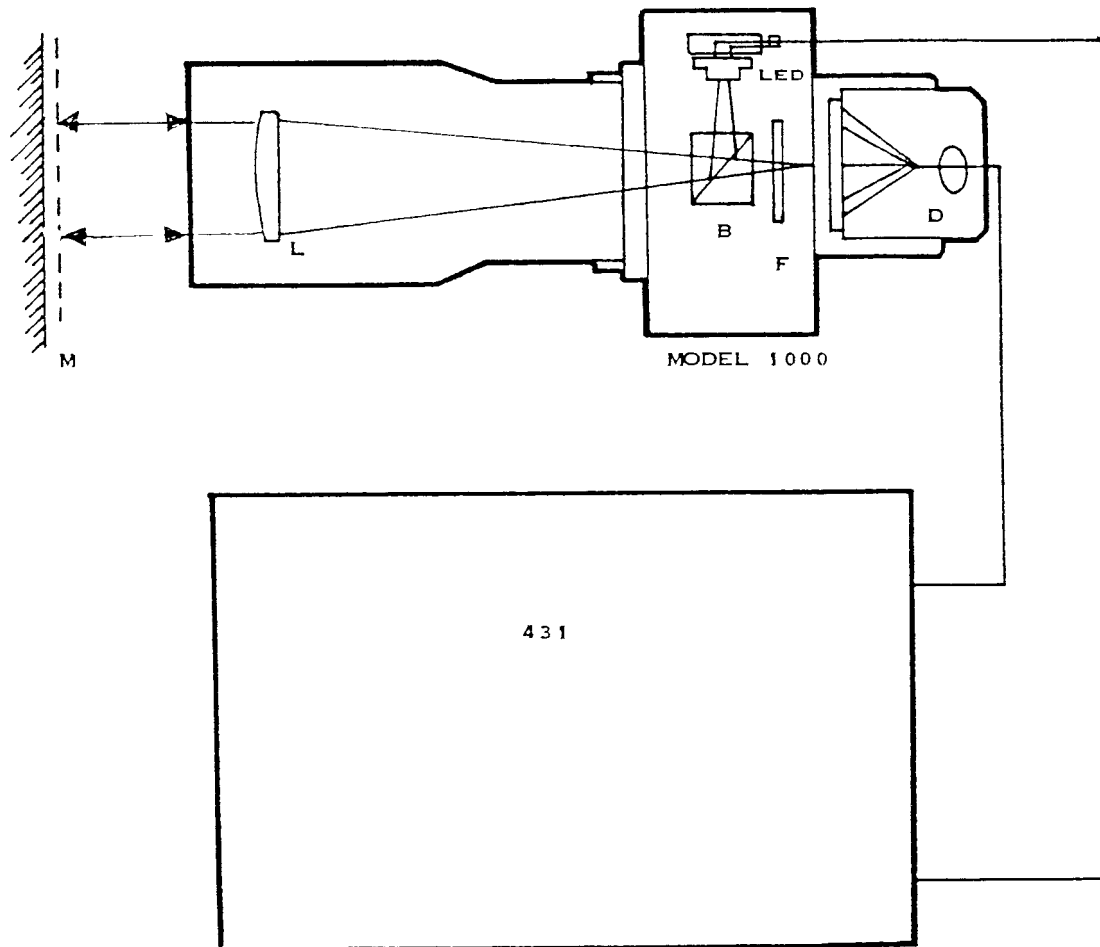

FIGURE 4.7B TYPICAL MODEL 1000 SYSTEM
The UDT Model 1000 is similar in concept to the classical autocollimator except that a position sensing photodetector is used in place of the observer's eye. As shown in figure 4.7B a high power infrared light emitting diode (LED) generates a 15° beam of light which is reflected through a beamsplitter (B) and then collimated by lens (L). This parallel beam is reflected off the device under test H, back through the lens and beamsplitter to the detector assembly (D). (A visible light blocking filter (F) is used to prevent ambient light from biasing the detector readings.)